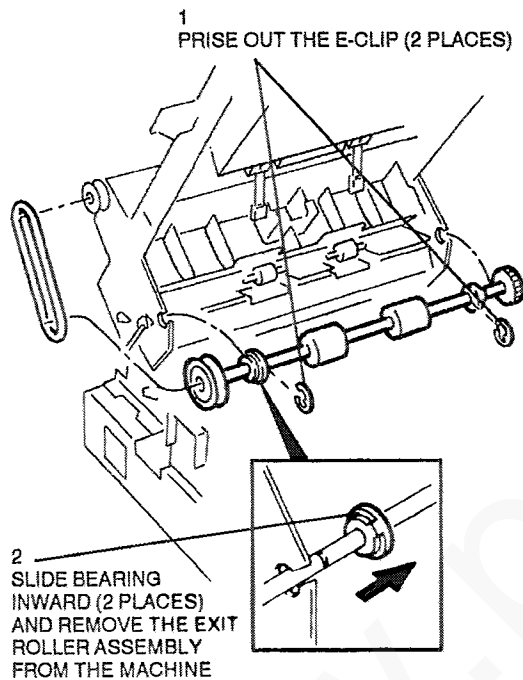

Figure 1. Exit roller assembly (lower) removal
5. (Figure 1) Remove the exit roller assembly (lower).